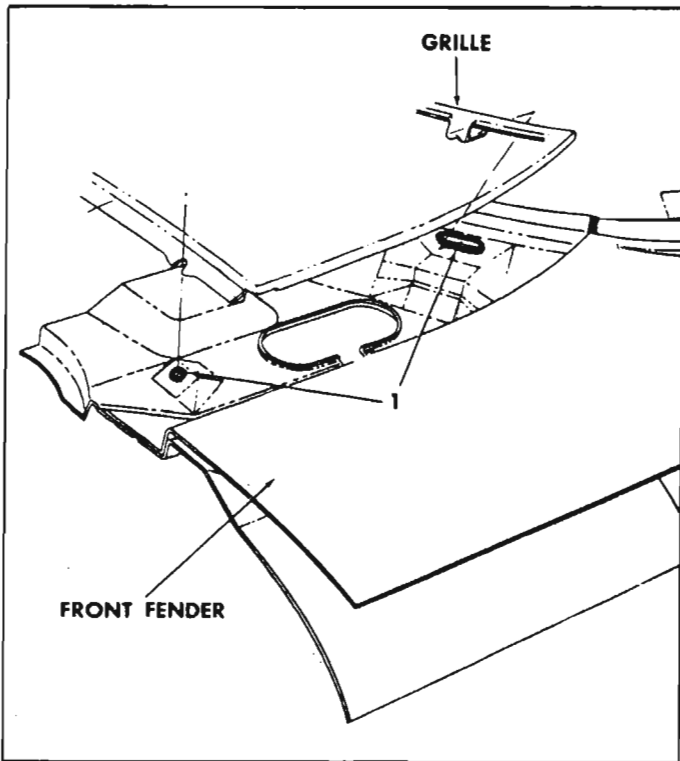

Fig. 10-23—Cowl Top Ventilator Grille Sealing
4. To install apply medium-bodied sealer around screw attaching holes and grille retaining slots as indicated by "1" (fig. 10-23).